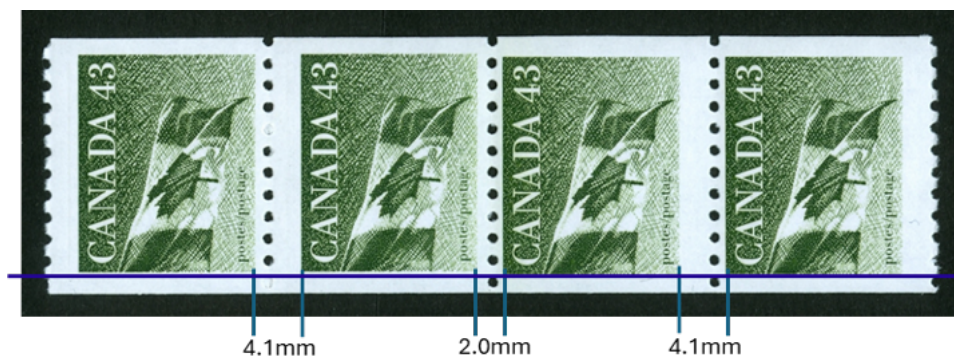

Figure 1: Very narrow spacing strip with jump to left (down as shown)
- Narrow spacing: jump left, right, or no jump, (such as shown in Figure 1)